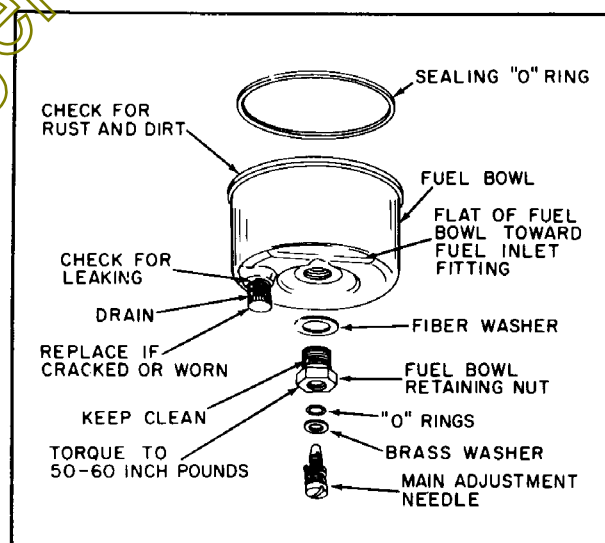

Figure 4-7
FUEL BOWL RETAINING NUT - remove the fuel bowl retaining nut and fiber washer. (Figure 4-7) Replace the washer, if cracked or worn.
FUEL BOWL - Fuel bowl should be examined for rust and dirt. (Figure 4-7) Thoroughly clean before replacing. If it is impossible to properly clean the fuel bowl, replace it.
- b. The large "O" rings (Figures 4-7 and 4-8) sealing the fuel bowl to the carburetor body must be in good condition to prevent leakage. Examine the "O" ring for swelling or cuts. Moisten the "O" ring seal with either water or a very small amount of fuel or oil to allow the fuel bowl to slide onto the "O" ring properly. Hold the carburetor body in an inverted position and place the "O" ring on the carburetor body and then position the fuel bowl.